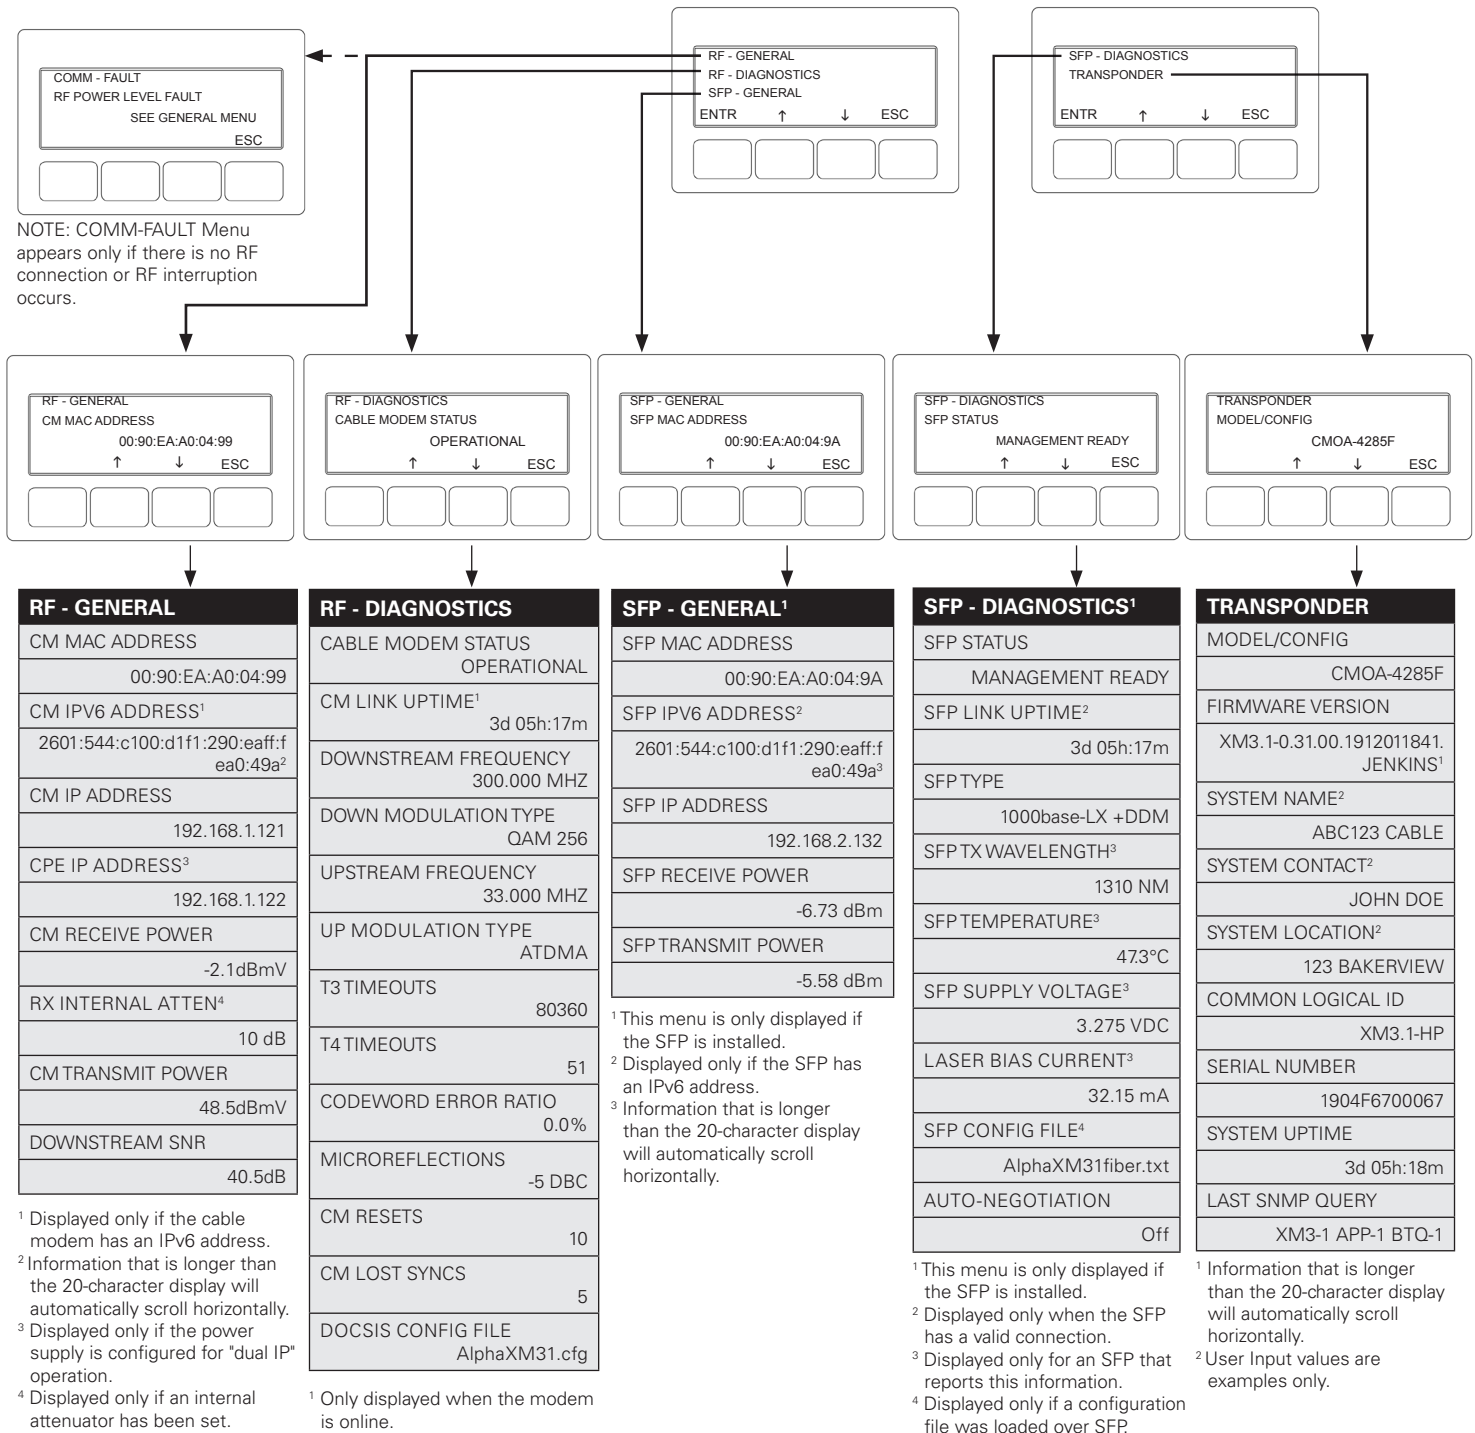

Fig. 2-29 COMM Menu Options
6. A dialog box much like **Fig. 2-29** will pop up. Click **Internet Protocol** (TCP/IPv4) and then click the **Properties** button.